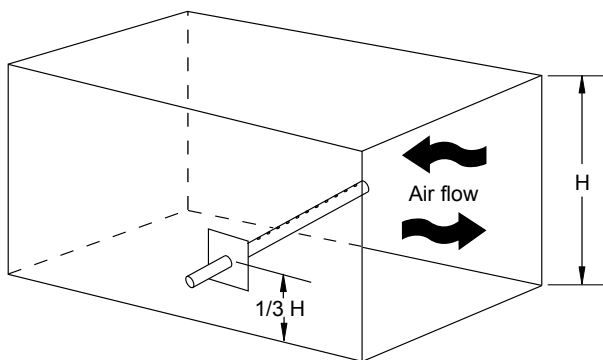
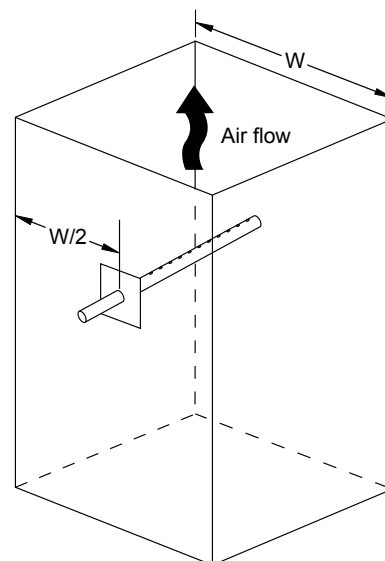

Fig. 8a HORIZONTAL DUCT
Fig. 8b VERTICAL DUCT
8.1 Proper installation of the diffuser and steam hose is critical for the trouble-free operation of the humidifier. Please find an accessible location on the duct and make sure you have a **minimum length of 60"** of straight duct downstream (without elbows or other obstructions on which the steam could condensate), to allow the steam to disperse easily into the airflow. Once a suitable location has been found make a 2" middle insertion hole in the warm air duct for the steam diffuser. For a horizontal duct, make the 2" hole in the lower third of the duct height. Please see Fig. 8a. For a vertical duct, make the 2" hole in the middle of the duct. Please see Fig. 8b.